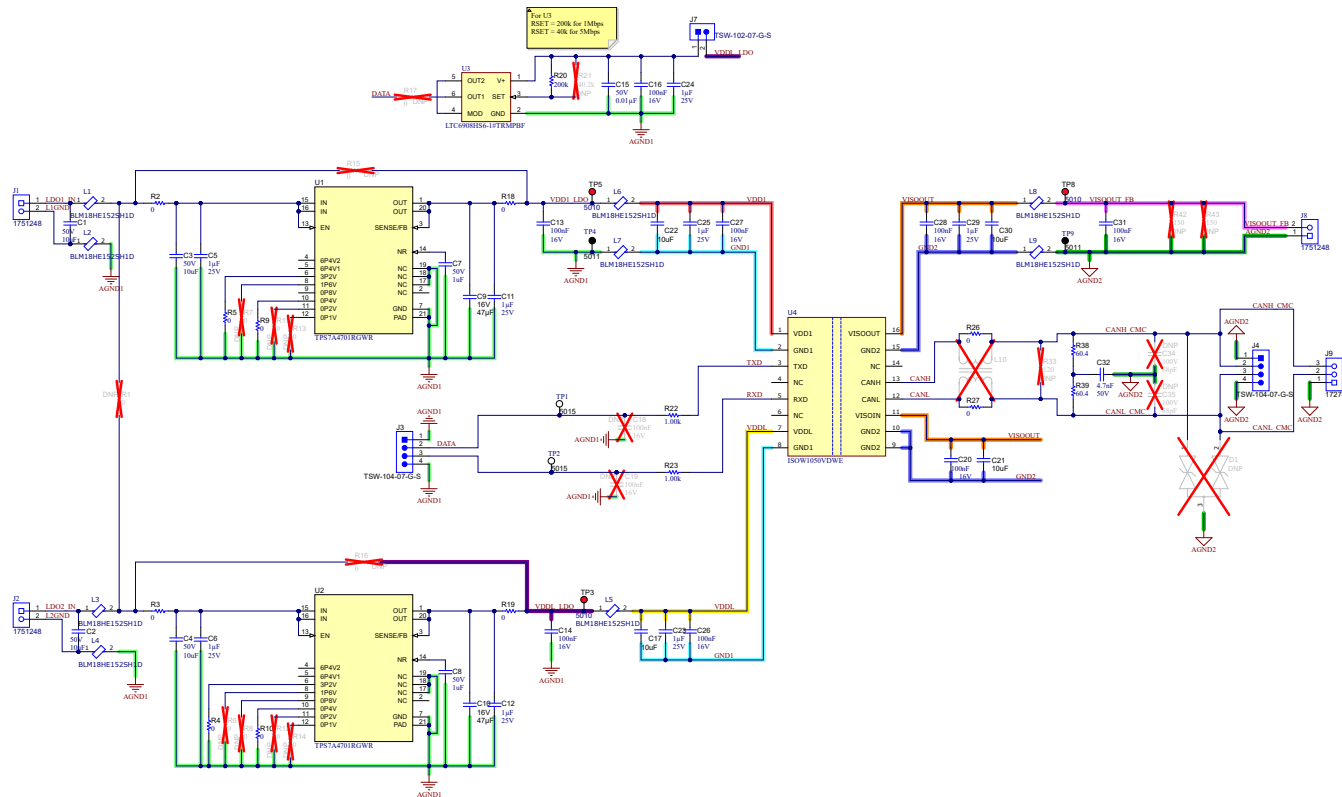

Figure 3-1. ISOW1050DWEEVM Schematic
The ISOW1050DWEEVM is designed to accommodate any of the ISOW1050(V) devices in a 16-pin WB SOIC package (DWE-16). To evaluate the second variant, the ISOW1050, in a 16-pin WB SOIC package (DWE-16), replace the installed ISOW1050V with the ISOW1050 on the ISOW1050DWEEVM board. No other component requires any modification for ISOW1050 device since Pin-7 is NC for the Non-V device. Figure 3-1 shows the ISOW1050DWEEVM schematic connections.